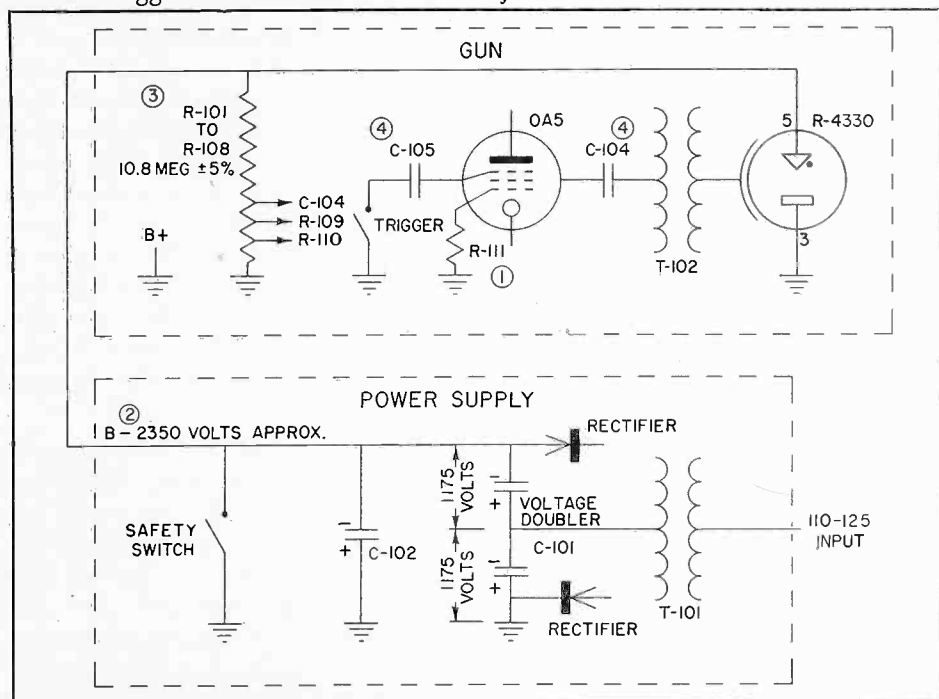

Figure 2. A partial single line schematic of a photoflash unit to aid in trouble shooting. Circled numbers indicate trouble points mentioned in the article.
Figure 2 shows a cross-sectional diagram and proper biasing polarities for the four types of transistors that have been developed. It can be seen that the polarities of the supplies for the N-P-N junction and the P type point-contact transistors are similar to those used for vacuum tubes.
The first check should be a resistance reading of the voltage divider network made up of resistors R-101 to R-108 in Figure 2 (3). This can best be done by measuring between pins 3 and 5 of the flash tube socket or between pin 5 and the exposed shield of the high voltage cable. The reading obtained should be approximately 10.8 megohms, plus or minus five per cent. If the variation exceeds five per cent, check each resistor in the divider individually and replace if necessary. Special attention should be given to the value of R-101 to see that it is within its five per cent tolerance; intermittent operation may result if it is not. The unit will flash automatically without being triggered or will not flash at all, depending on whether R-101 is excessively above or below its specified tolerance. Should the divider resistors check okay, a check should then be made of the values of the trigger tube supply resistors, R-109, R-110 and R-111. Again, if any exceed their tolerance they should be replaced.
set of fully charged batteries in good condition. This figure is based on factory tests, flashing the unit every consecutive 20 seconds. However, flashing at longer intervals will reduce the number of available flashes proportionately. Certain conditions in the gun will alter those figures. A gun in good electrical condition will fire at a minimum voltage of 1750 volts. If the trigger supply voltages were not correct or the oscillatory trigger capacitors had over the nominal amount of leakage, the minimum flashing voltage would increase. Therefore, even if the batteries were in a fully charged condition, fewer flashes would be obtained, sometimes reducing to almost one-half the normal number. One of the most common causes of this reduced flashing voltage range is the condition of the capacitors C-104 and C-105 in Figure 2 (4). If a capacitance tester is not available, we suggest the replacement of these capacitors rather than relying on the familiar ohmmeter "kick" test. Ordinarily not much trouble should be encountered with the triggering transformer (T-102). Excessive moisture will affect its operation; therefore, the rubber weather-proofing band should always be replaced around the top of the gun and flash tube. The primary of the trigger transformer will